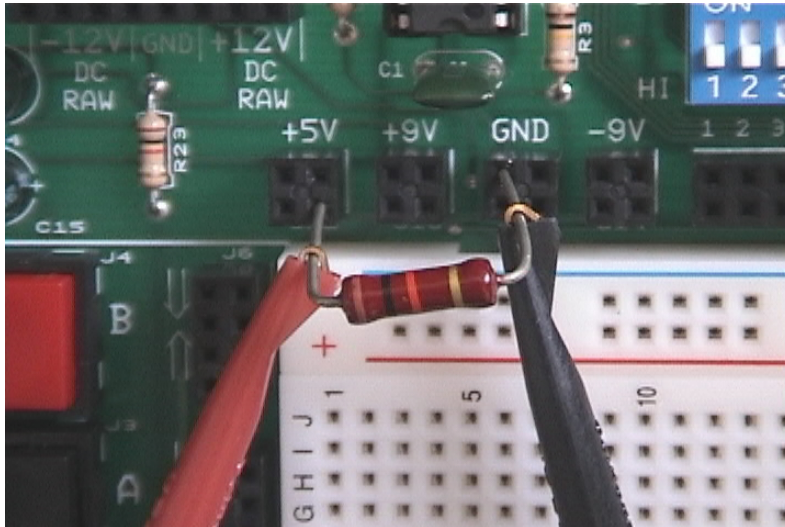

Figure 4: Connecting Mini-grabbers to Socket Connectors
13. [] Connect the black mini-grabber to the end of the 10kΩ resistor connected to GND. See Figure 4. *Note: When measuring a signal, always connect the black mini-grabber to ground.*
14. [] Connect the red mini-grabber to the end of the 10kΩ resistor connected to +5V. See Figure 4.